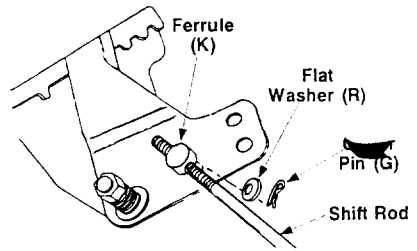

FIGURE 12
- Thread the ferrule (K) on the threaded end of the upper shift rod.
- Place the shift lever in the fastest forward position. Push the shift rod down as far as it will go, to put the transmission into the fastest forward position. Thread the ferrule in or out on the shift rod as necessary until the ferrule lines up with the hole in the shift lever as shown in figure 12. Secure with flat washer (R) and internal cotter pin (G).